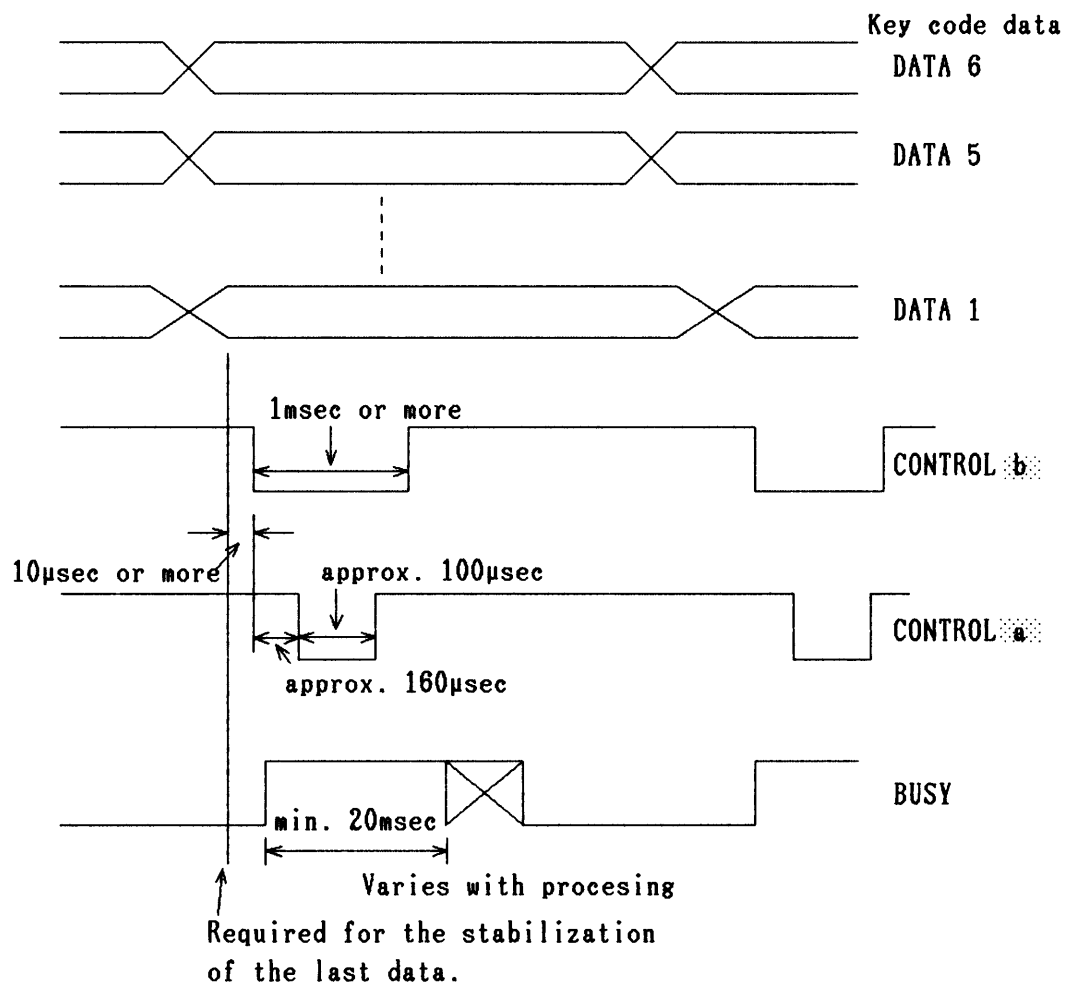

Figure 5-2
When the BUSY signal is "0", set the key code data (DATA1-6), and after the last data of DATA1-6 is established, wait for 10μsec or longer. Then, set CONTROL **b** to "0" for 1msec or longer as shown in Figure 5-2.
- 2) Send CONTROL **b** which is set to "0" for 1msec or longer as shown in Figure 5-2 (input data timing).